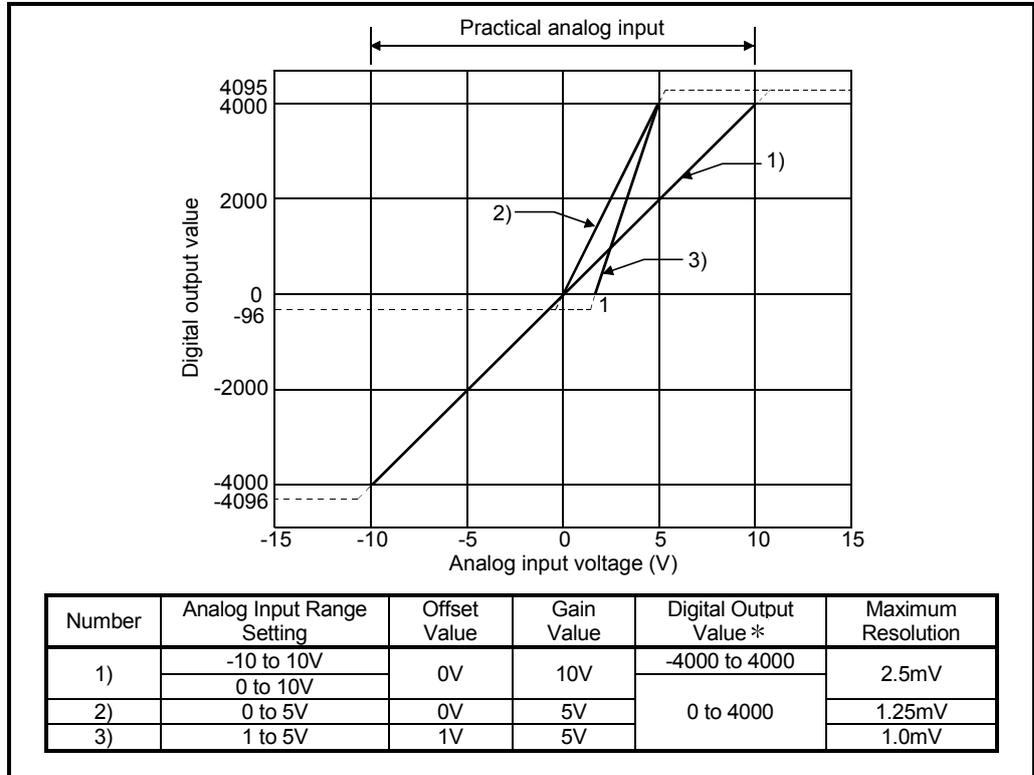

Fig. 3.1 Voltage Input Characteristics
| (3) Within the analog input and digital output scopes of each input range, the maximum resolution and accuracy are within the performance specification range. Outside those scopes, however, they may not fall within the performance specification range. (Avoid using the dotted line part in Fig. 3.1.) |